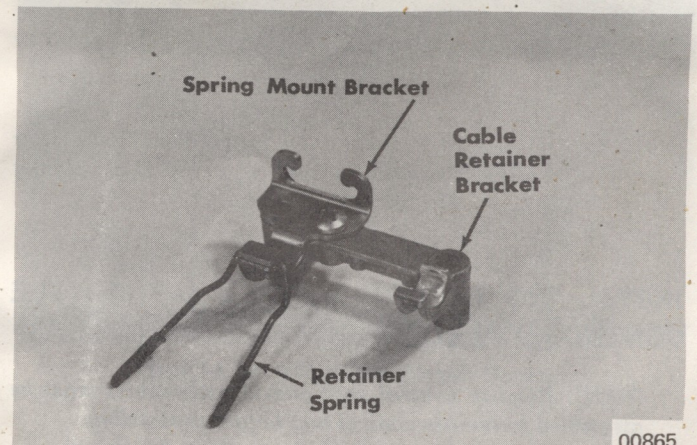

Figure 6. Shift Cable Retainer Bracket Assembled
2. Assemble shift cable retainer bracket, spring mount bracket and cable retainer spring with a 3/8" (9.5mm) long phillips head screw. (Figure 6)
4. Install shift cable anchor pin to cylinder block cover with a ¼"-28 nut. (Figure 6) Anchor pin is part of cylinder block cover on 1974 models.